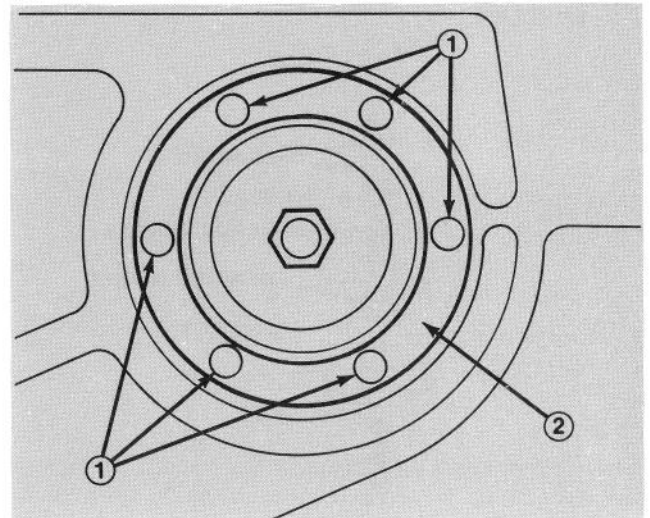

Figure 20
3. Remove six flange bolts and nuts holding spindle housing assembly and support ring against cutting unit (Fig. 20). Slide spindle housing assembly out bottom of cutting unit.
9. Slide pulley end of spindle assembly through hole in cutting unit. Mount spindle assembly in place with support ring and six carriage bolts and flange nuts (Fig. 20).